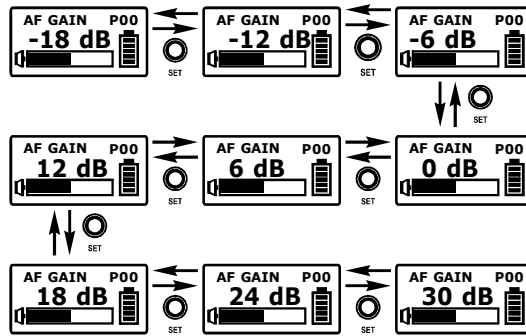

Fig. 8
5. AF GAIN: Setup and Change of Input Sensitivity, Fig. 8.
- (A) AF gain -18dB ~ 30dB in 6dB increment.
- (B) Press MODE and stop on the AF GAIN function; the LCD screen will start flashing in the current set state and is ready for change.
- (C) Press SET button to set dB value. -18dB ~ 30dB in 6dB increment.
- (D) The screen will stop flashing and remain in the set state if not operated within 30 seconds.
- (E) The higher the gains are set, the lower the dynamic range for signal input and the greater the danger of unwanted noises and feedback getting into the system.
- (F) When the gain set at 0dB, the maximum input strength is 2 Vrms (6dBV).
- (G) When the gain is set at -12dB or -18dB it stands up to 20Vp-p input signals. Signals cut off when it exceeds this level.